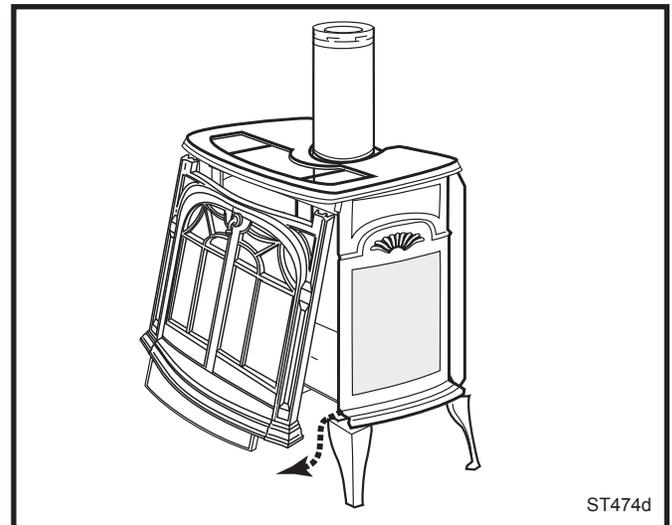

Fig. 37 Remove the Stove Front.
2. Lift the Stove Front up and then swing the bottom out to disengage it from the heater shell. (Fig. 37)
1. Remove the Front, Glass Frame and Glass Panel. (Figs. 37, 38) Remove the old gasket. Use a razor blade, with rounded corners, to separate the glass and gasket from the frame, and to clean the glass of any remaining cement or bits of gasket.